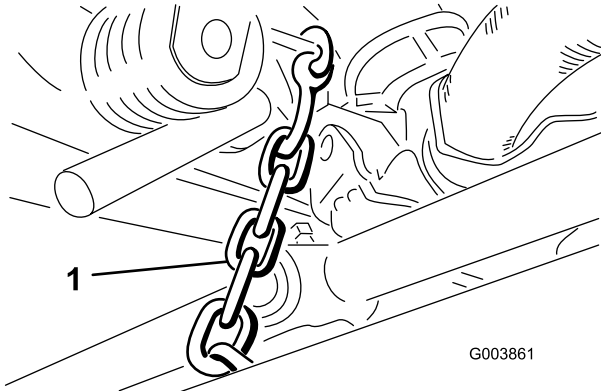

Figure 11
9. Detach the lock-up chain from the lift arm and secure it to the cross tube on each rear cutting unit with a bolt, flat washer, and locknut (Figure 11).